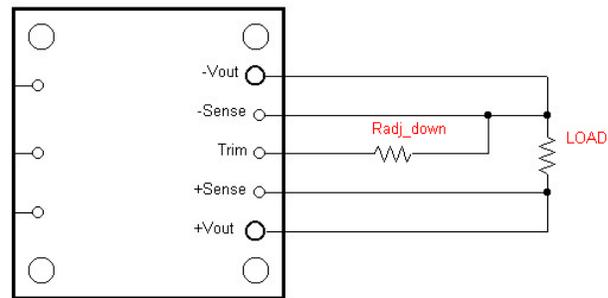

Figure 4. Radj_down Setup to decrease Output Voltage.
To adjust Vo to a lower value, please refer to Figure 4. An external resistor, **Radj_down** should be connected between the Trim Pin and the -Sense Pin. From Equation (2), Radj_down resistor can be determined for the required output voltage change.